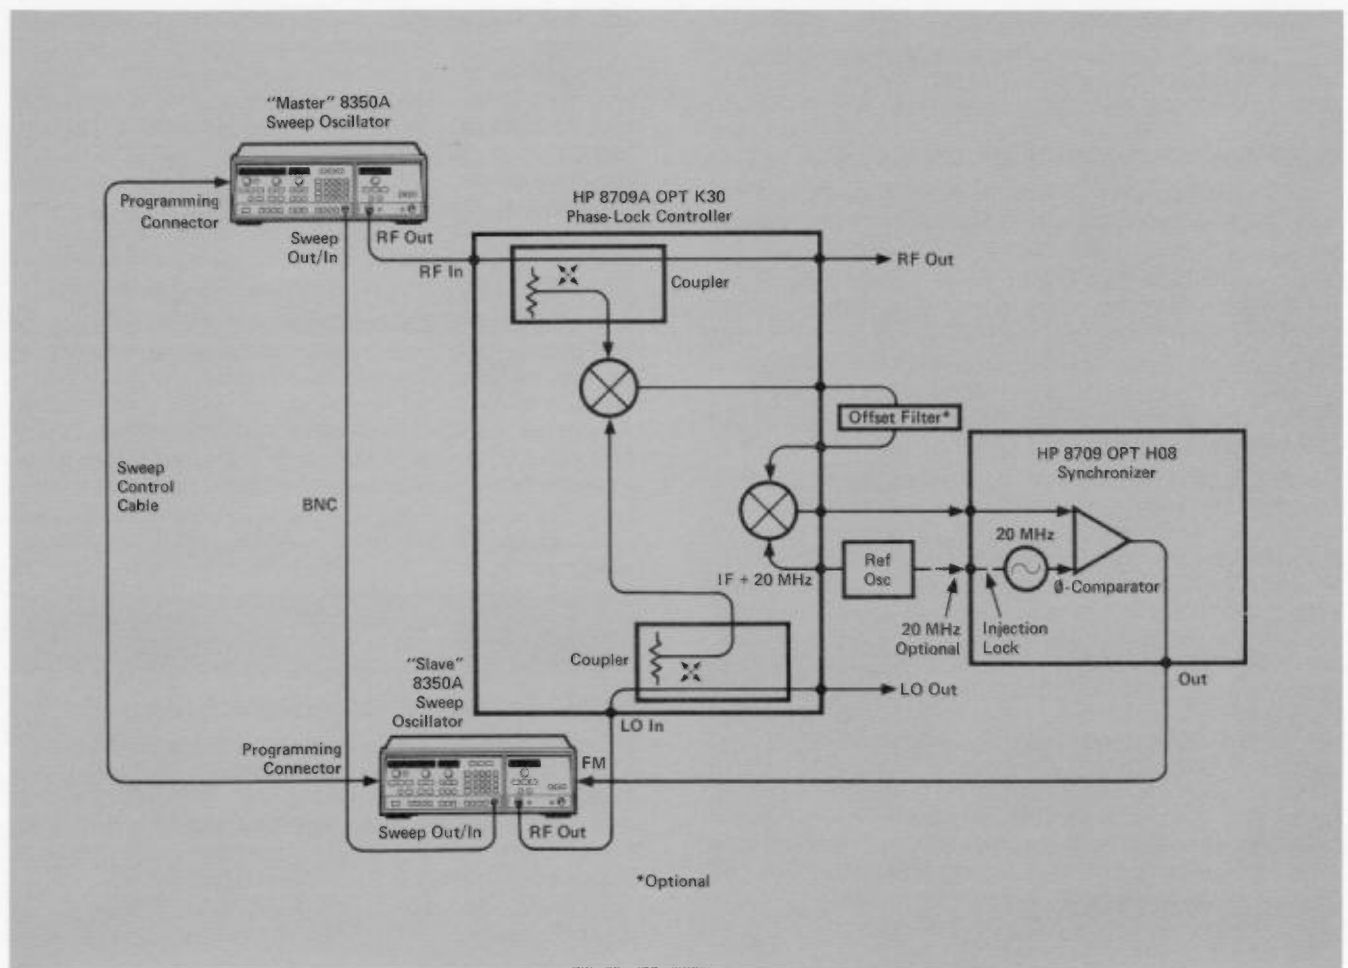

Figure 5. Two-tone System with Phase-Locked Offset Block Diagram
For more demanding applications a Two-tone Source with Phase-locked Offset provides improved offset (IF) accuracy over the Basic Two-tone Source previously described. Like the Basic Two-tone Source, this system designates one sweep oscillator as a "Master" and the other as a "Slave" (see Figure 5). The sweep ramp of the "Master" is then used to externally sweep the "Slave" which has been adjusted to the desired offset. A Sweep Control Cable is attached to the programming connector to coordinate the sweep signals.
1. Connect the equipment as shown in Figure 5.³